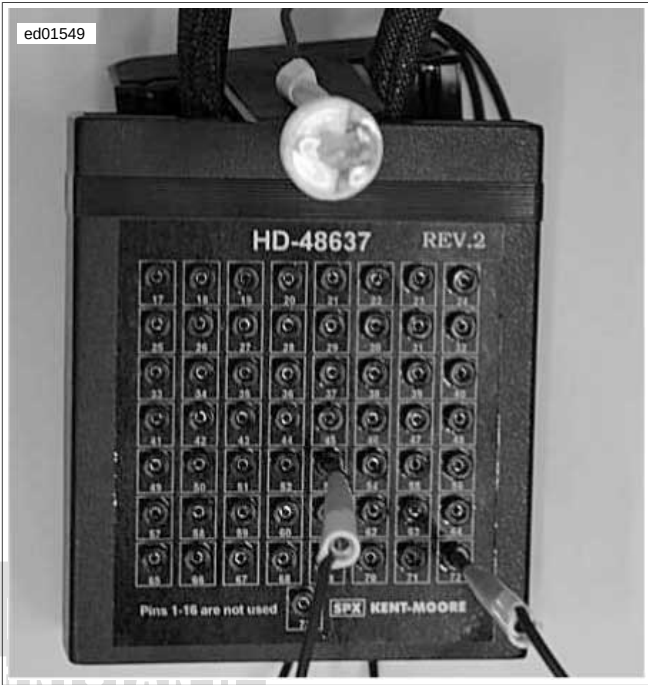

Figure 4-71. Ignition Coil Circuit Test
2. See Figure 4-71. Plug IGNITION COIL CIRCUIT TEST ADAPTER (Part No. HD-44687) and FUEL INJECTOR TEST LAMP (Part No. HD-34730-2C) into Breakout Box. Note that cranking the engine with test lamp in place of the ignition coil can sometimes cause a DTC P1351, P1352, P1354 or P1355. This condition is normal and does not by itself indicate a malfunction. DTCs must be cleared if this condition occurs.